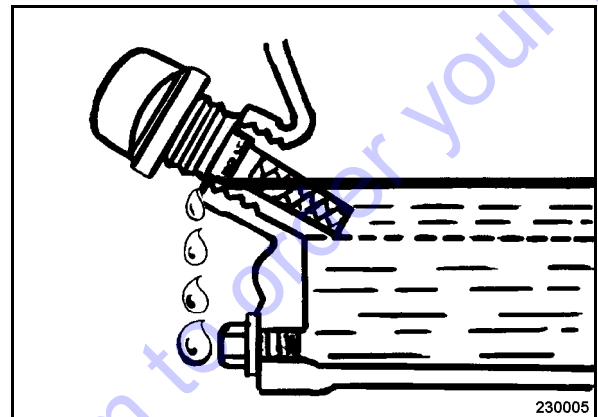

Fig. 28
- Unscrew the oil filler plug (Fig. 28).